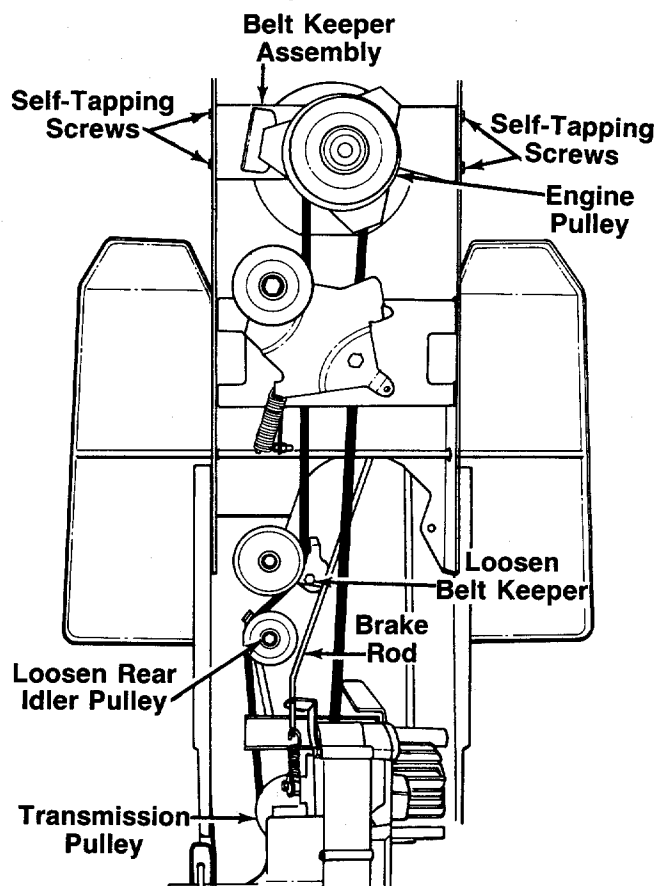

FIGURE 22.
DRIVE BELT REPLACEMENT (See figure 22)
4. Remove the four self-tapping screws which hold the belt keeper assembly to the frame at the engine pulley. Push the belt keeper assembly forward, out of the way. See figure 22.